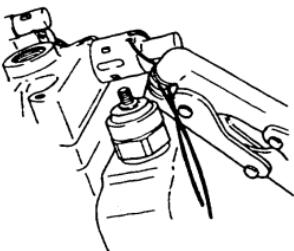

Fig. 13 Sealing the cap
4. Crush the lead seal using sealing pliers. (Fig. 13)